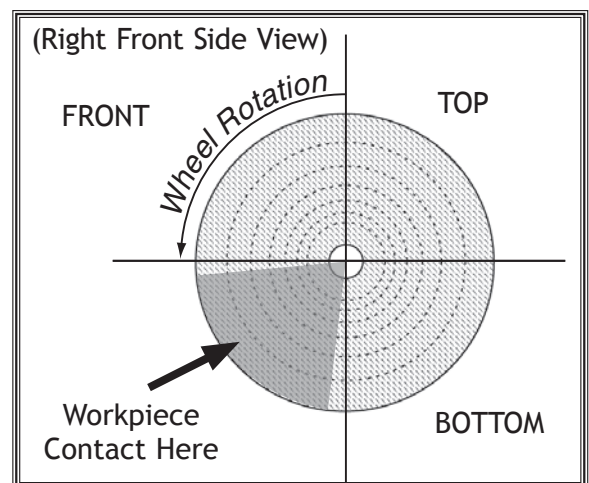

Figure 8. Location where workpiece should contact wheel.
- Only use the area indicated in **Figure 8** to do the actual buffing. Contacting the workpiece on areas outside the correct area may flip the workpiece out of your hands.